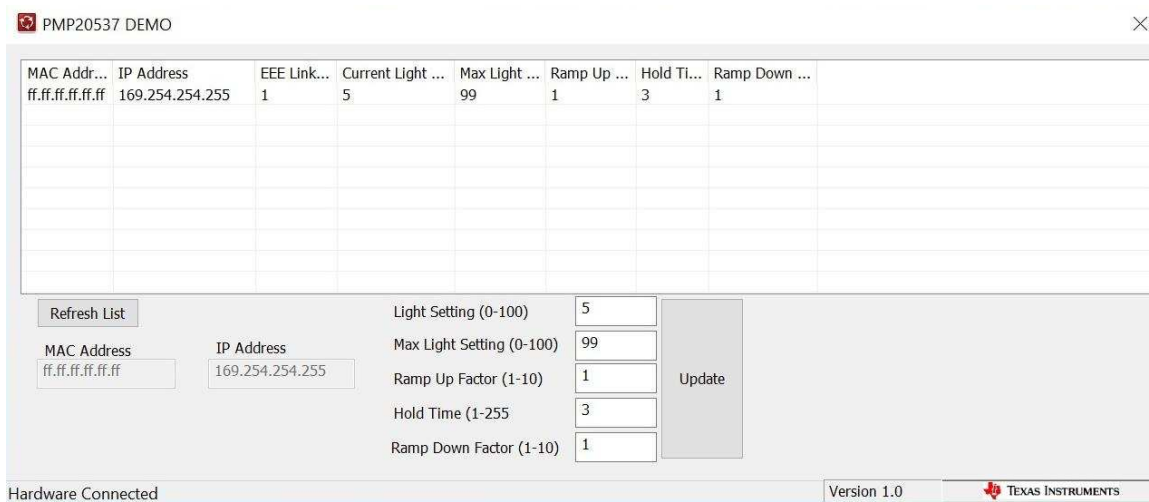

Figure 24. PMP20537DEMO Software
After connecting the test setup to the PC and powering on the light, start *PMP20537 Demo*. The window in Figure 24 appears.
4. Click *Refresh* to see the settings reflected on Figure 24.